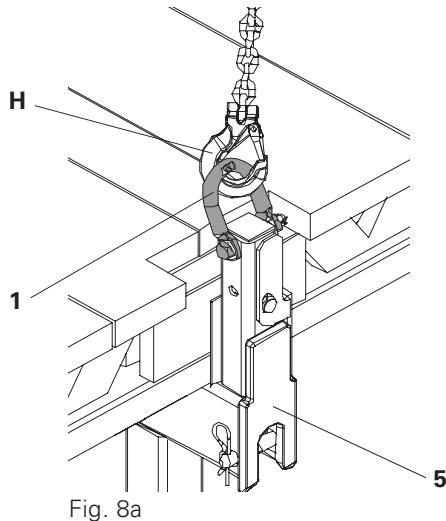

Fig. 8a
(Fig. 8a)
1. Attach Hook (H) of the lifting gear to the Crane D-Ring (1) of the Crane Eye CB 240-2 0.7 t and secure. (Fig. 8a)